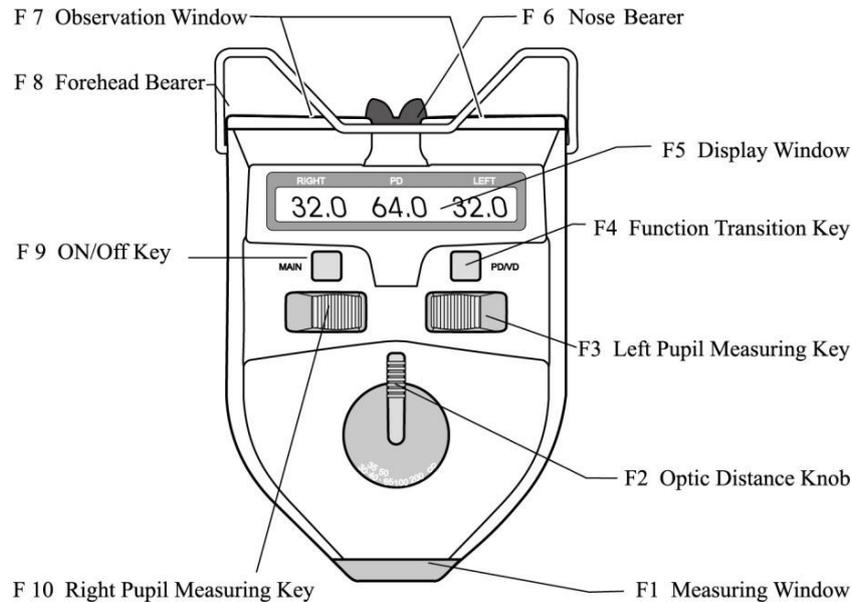

Fig.1
- e. In order to measure the pupillary distance at different optic distances, please turn the Optic Distance Knob (as shown in Fig.1 NO.2) to your optic distances first and then make your measurement. This device sets some different optic distance locations such as 30cm, 35cm, 40cm, 50cm, 65cm, 1m, 2m and ∞ .